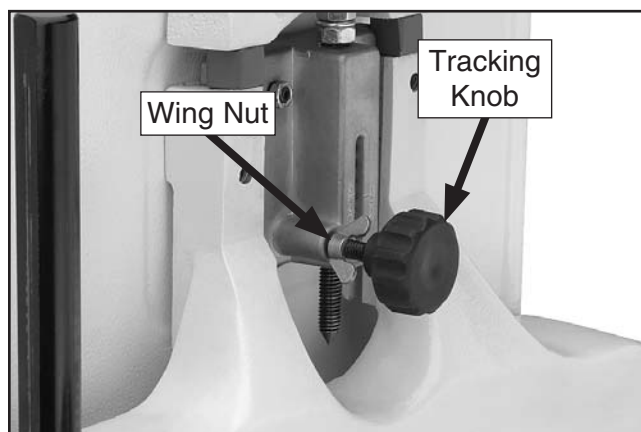

Figure 24. Tracking knob and wing nut.
7. Loosen the wing nut on the tracking knob (see **Figure 24**).